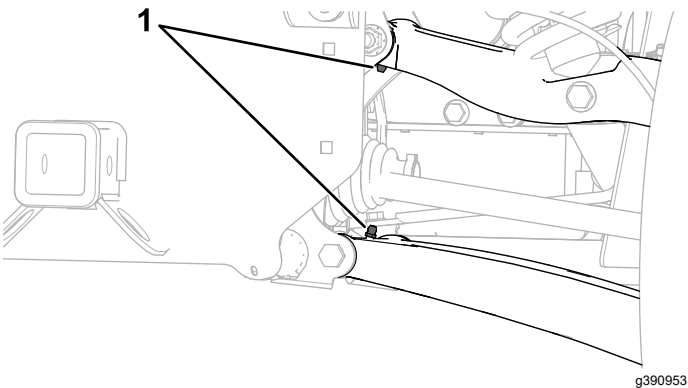

Figure 55
- **Rear control arm pivots (4);** refer to Figure 55